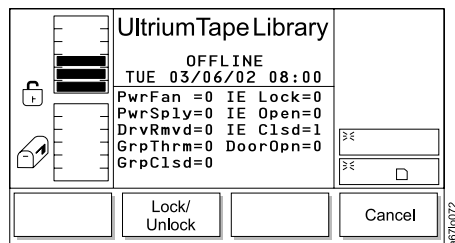

Figure 266. Sensor Dialog
5. Press the button below the **Sensors** softkey. The Sensor Dialog displays (see Figure 266).